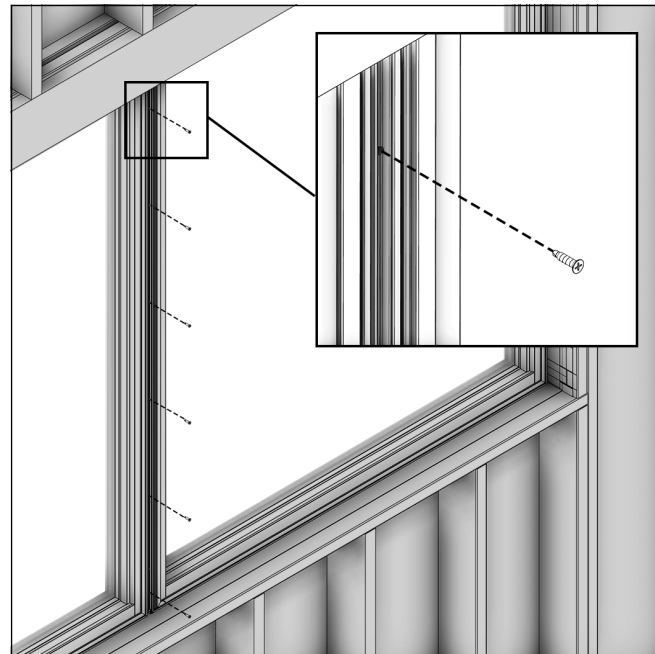

Figure 76 Fasten interlock
13. Fasten interlock from interior, with TEK2 #8 x 3/4" screws- one screw per every hole. *Do not over tighten.* See Figure 76.